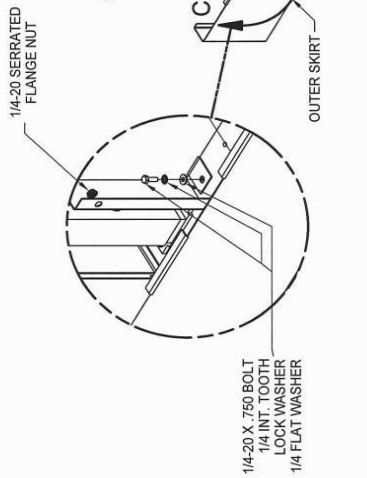

FIG. 2
2. REMOVE (2) SERRATED FLANGE NUTS AND OUTER SKIRT. (FIG. 2)
3. REMOVE 1/4-20 HARDWARE FROM BASE SECURING THE INNER SKIRT AND REMOVE THE INNER SKIRT (FIG. 2)